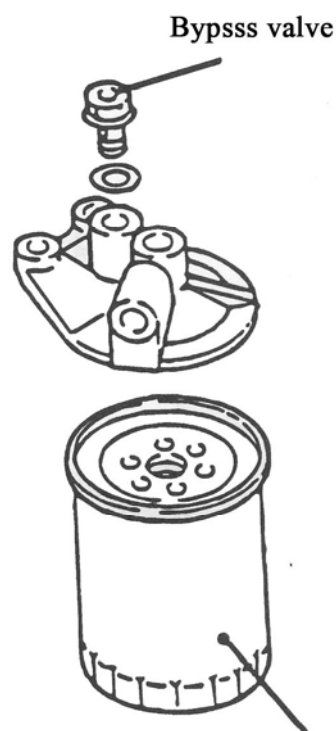

Fig 1.5 Block-in filter
1.5.2 Fuel Filter (see Fig 1.5)